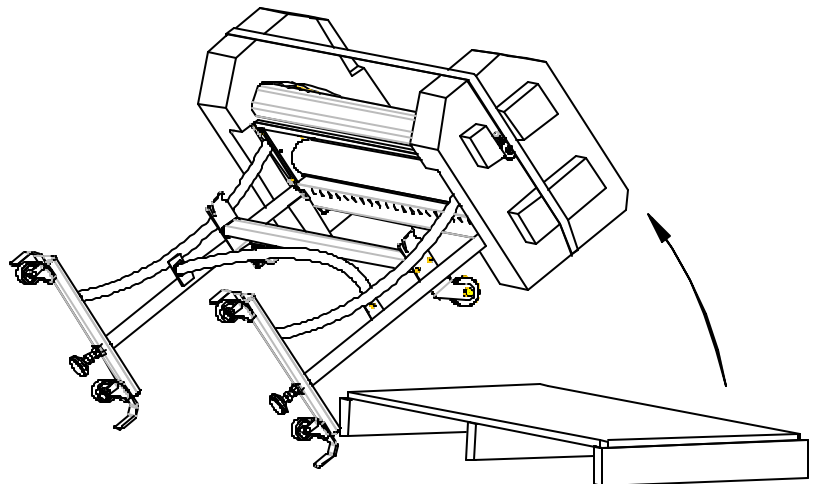

Figure 4.
- Carefully lift the laminator (at least two people must do this!) from the pallet and position it onto its castors as shown in Figure 4.